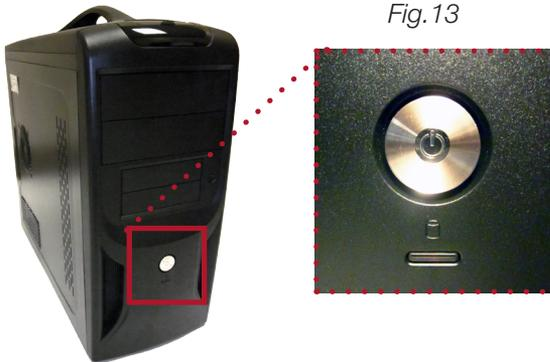

Fig.13
- Push the power button located on the front of the Computer. (See Fig.13)